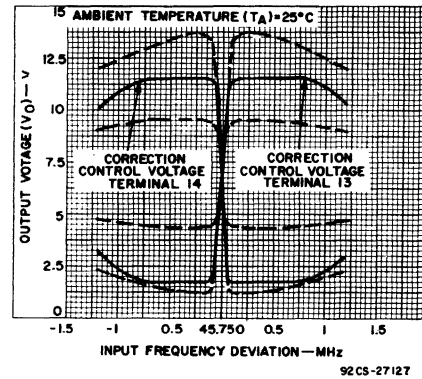

Fig. 4 - Dynamic control-voltage characteristics.
4) **AFT Detector and DC Amplifier** – Consists of Q6 through Q12 and related components. The detector inputs at terminals 8 and 10 are connected to the external discriminator transformer and biased through the transformer at terminal-6 potential. The total current through transistors Q7 and Q8 is held constant by the current-mirror transistors Q10, Q11, and Q12. External filter capacitors connected to terminals 11 and 12 assure that peak detection is accomplished. The AFT output voltages are shown in the Electrical Characteristics chart, and a graphical representation is shown in Fig. 4.